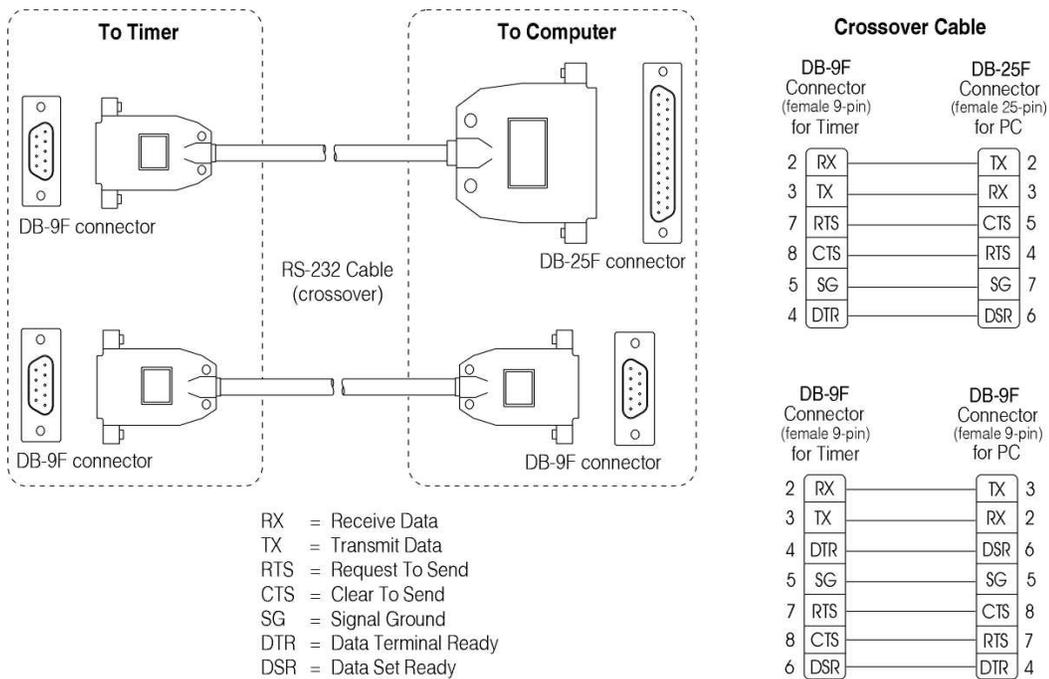

Figure 3. RS-232 cable pin connections (PC to a System 30 Timer)
- ❗ Pin connections for the cable wires must be as shown in Figure 3.